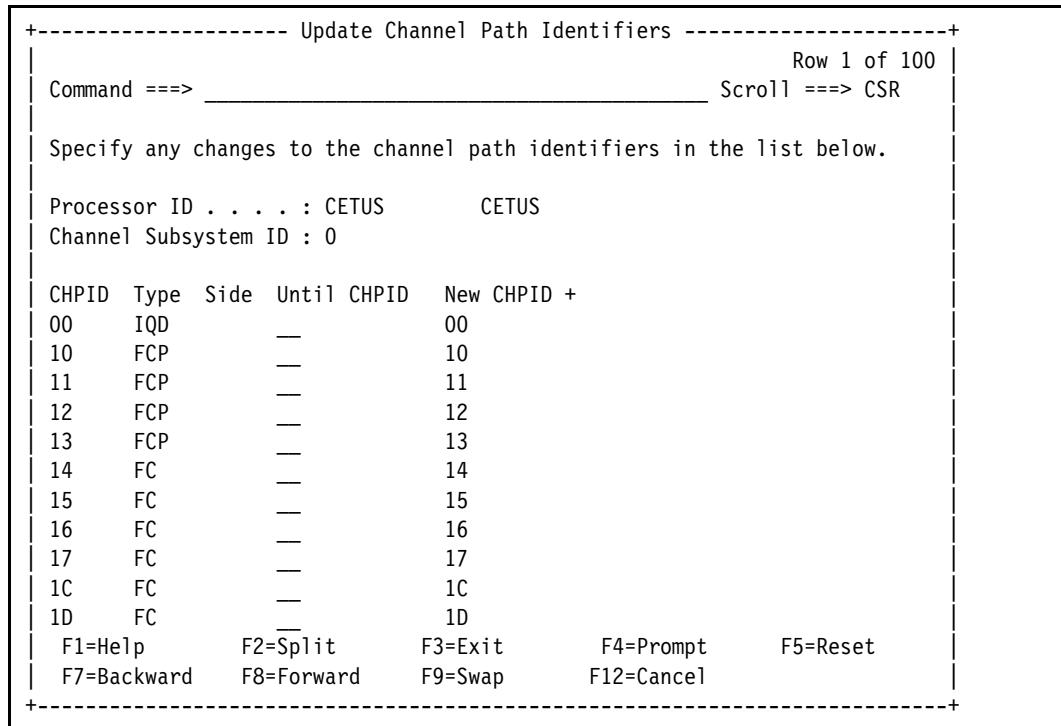

Figure 3-6 Processors: Update Channel Path Identifiers
- The Update Channel Path Identifiers panel opens (Figure 3-6). No changes are made in this example.